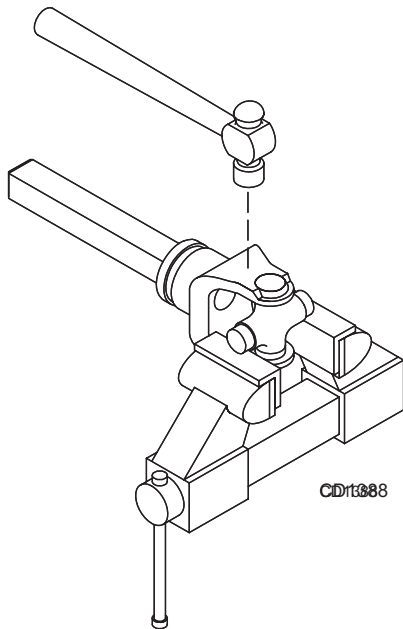

Figure 21. Remove Cups
4. Place universal cross in vise as shown in Figure 21 and tap on yoke to remove cup. Repeat Step 3 for final removal. Drive remaining cup out with a drift and hammer.